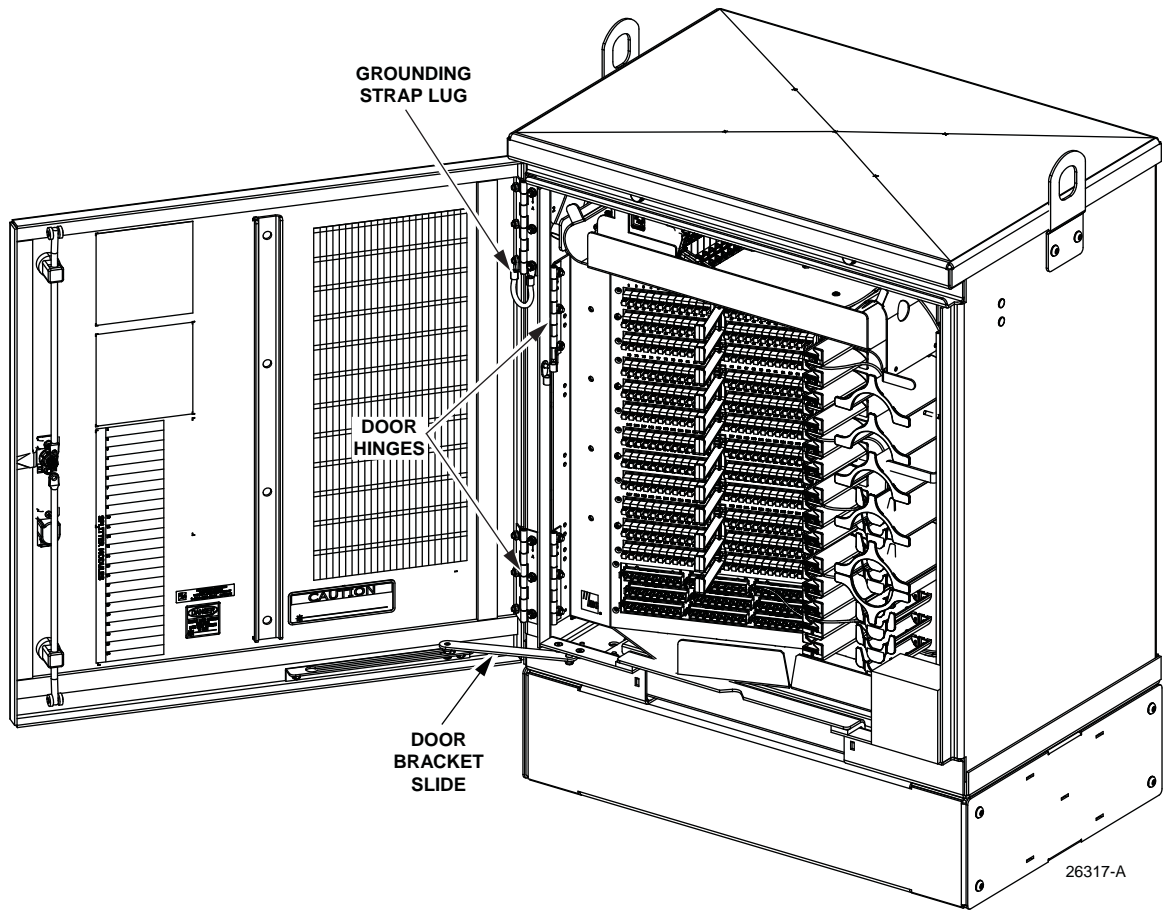

Figure 41. Door Replacement
1. Open both cabinet doors and lock them in the open position as shown in Figure 41.
- ▶ **Note:** Be sure to re-secure the grounding strap lug (see Figure 41) to the door when securing the hinges to the door.